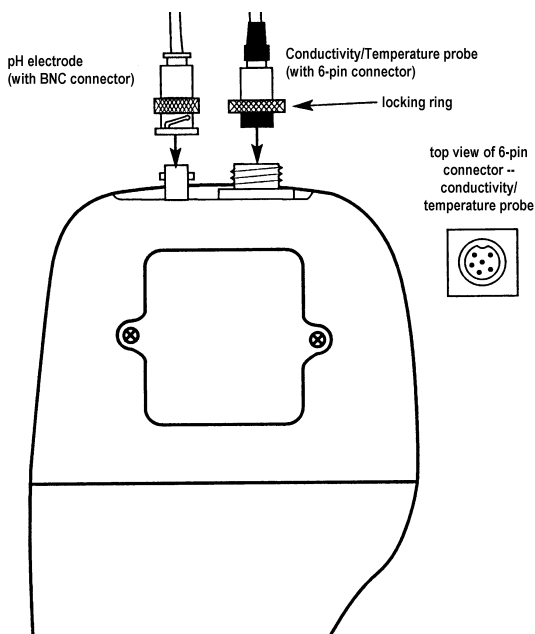

Figure 4: Connecting pH and Conductivity/Temperature Probes
You can use any standard pH electrode with a BNC connector with this meter. Conductivity probes, “3-in-1” pH electrodes with a built-in temperature element, and temperature probes require a notched 6-pin connector (see Figure 4). For replacement probes, see the “Accessories” section on page 56.
- 1 Line up the notch and 6 pins on the probe connector with the holes in the connector located on the top of the meter. Push down and screw the metal sleeve to lock the probe connector into place. See Figure 4.